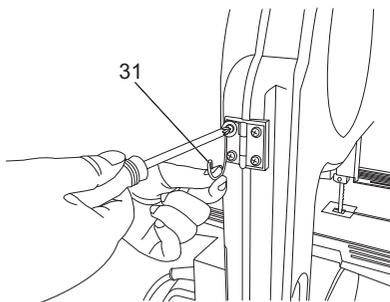

Fig. 7
> Unscrew the upper left hand hinge screw, attach the storage hook (31) and resecure the screw with screwdriver. (Fig. 7)